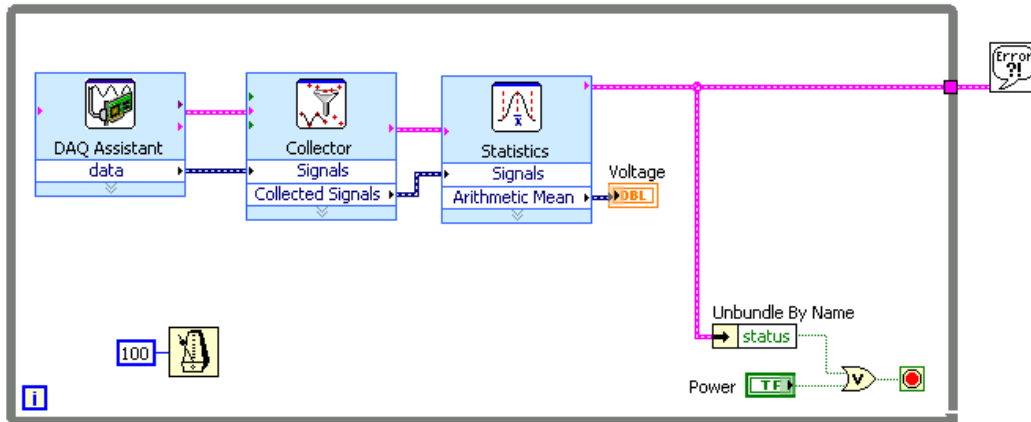

Figure 10.10
1. Stop the VI and display the block diagram (Figure 10.10). Modify the block diagram to calculate the average of 100 measurements.